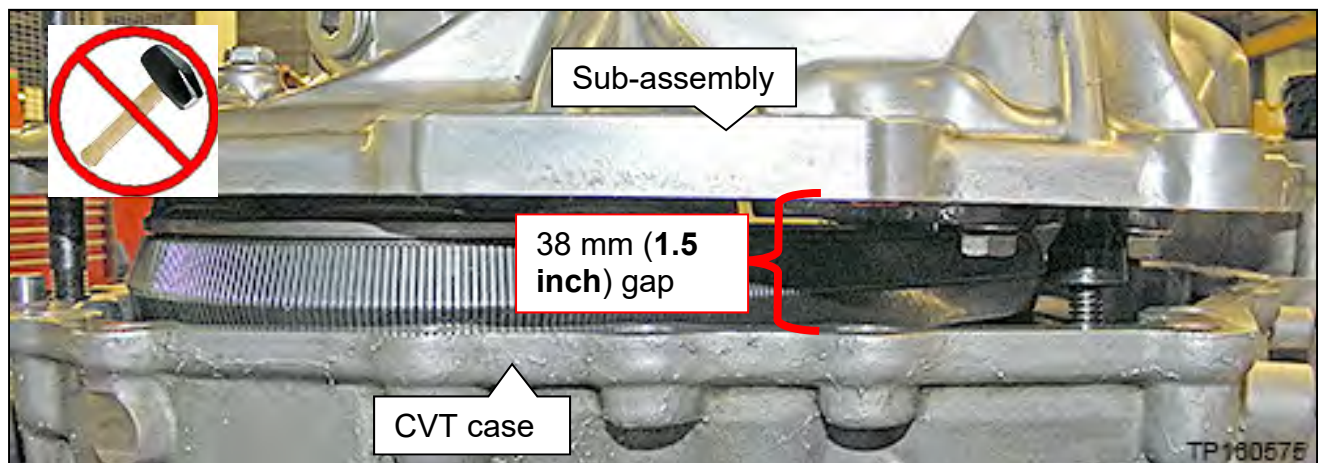

Figure 98
- b. Lower the sub-assembly until a gap of **38 mm (1.5 inch)** is present to the CVT case (Figure 98 on page 49) and then proceed to step 72.
**IMPORTANT:** Perform step 72 while the sub-assembly has a **38 mm (1.5 inch)** gap to the CVT case (Figure 98).